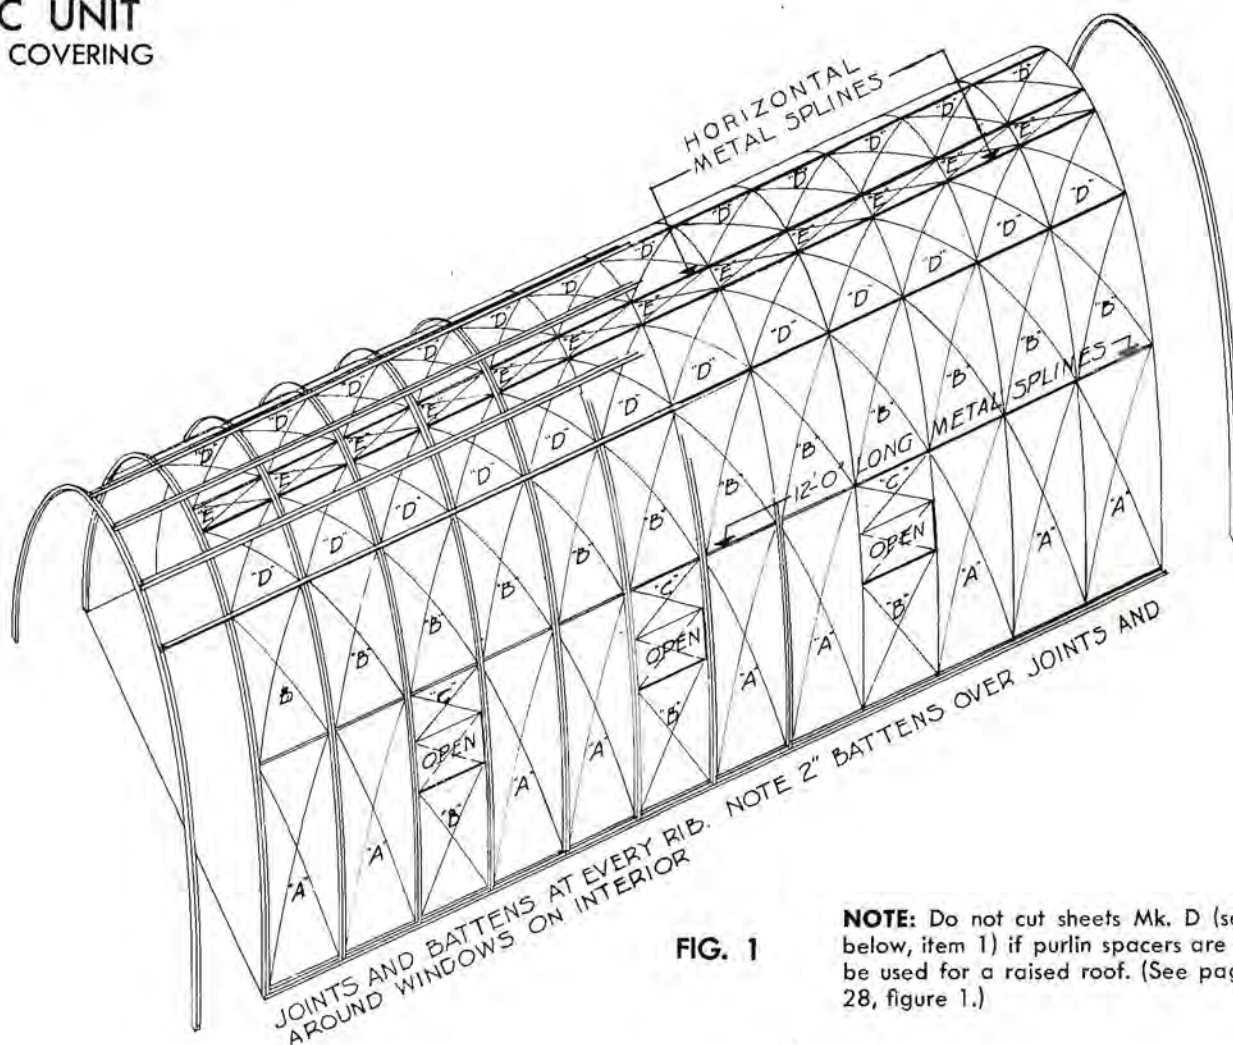

FIG. 1
**NOTE:** Do not cut sheets Mk. D (see below, item 1) if purlin spacers are to be used for a raised roof. (See page 28, figure 1.)